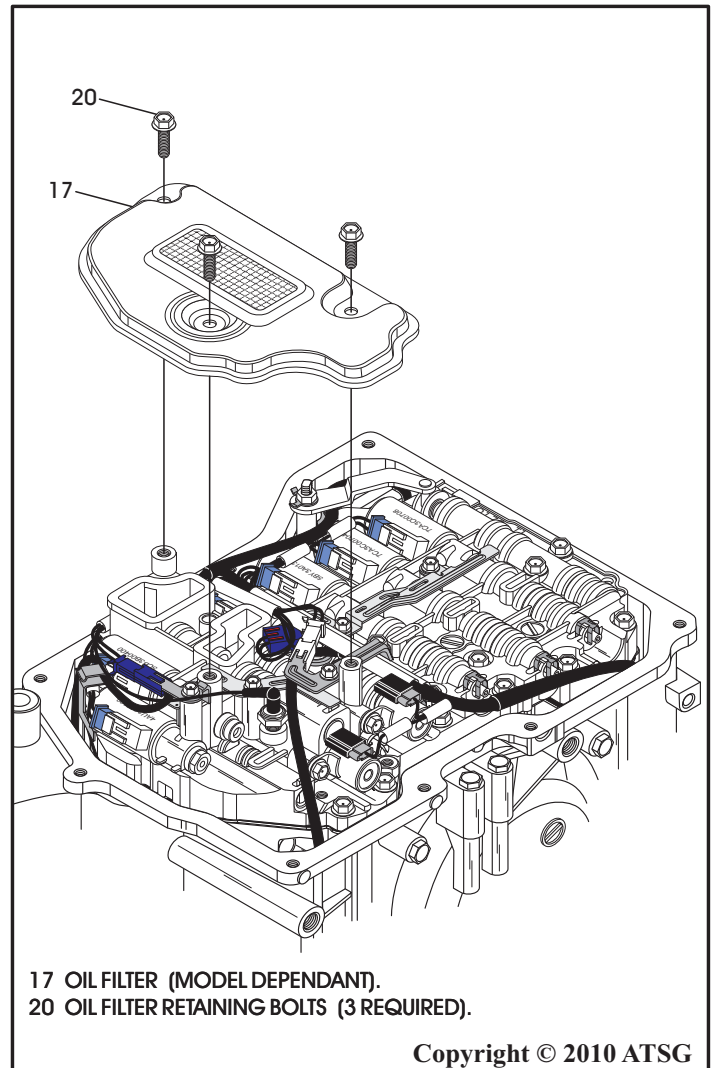

Figure 205
86. Install new oil filter, as shown in Figure 205 and torque the three bolts to 11 N·m (97 in.lb.).